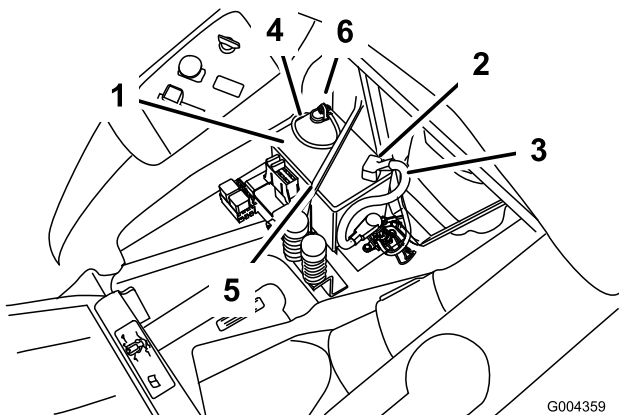

Figure 42
4. Disconnect the negative (black) ground cable from the battery post (Figure 42).
5. Slide the rubber cover up the positive (red) cable. Disconnect the positive (red) cable from the battery post (Figure 42).
6. Remove the battery hold-down (Figure 42) and lift the battery from the battery tray.
1. Position the battery in the tray with the terminal posts away from the control panel (Figure 42).
4. Secure the cables with 2 bolts (1/4 x 3/4 inch), washers (1/4 inch), and nuts (1/4 inch) (Figure 42).
6. Secure the battery with the hold-down (Figure 42).